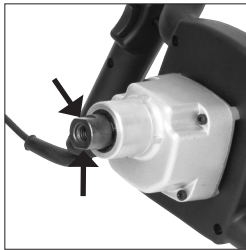

Fig. 2
Note: The machines arbor (**Fig. 2**) projects from the Twister Motor Unit, and has two (2) flats machined on it to accommodate the supplied spanner.